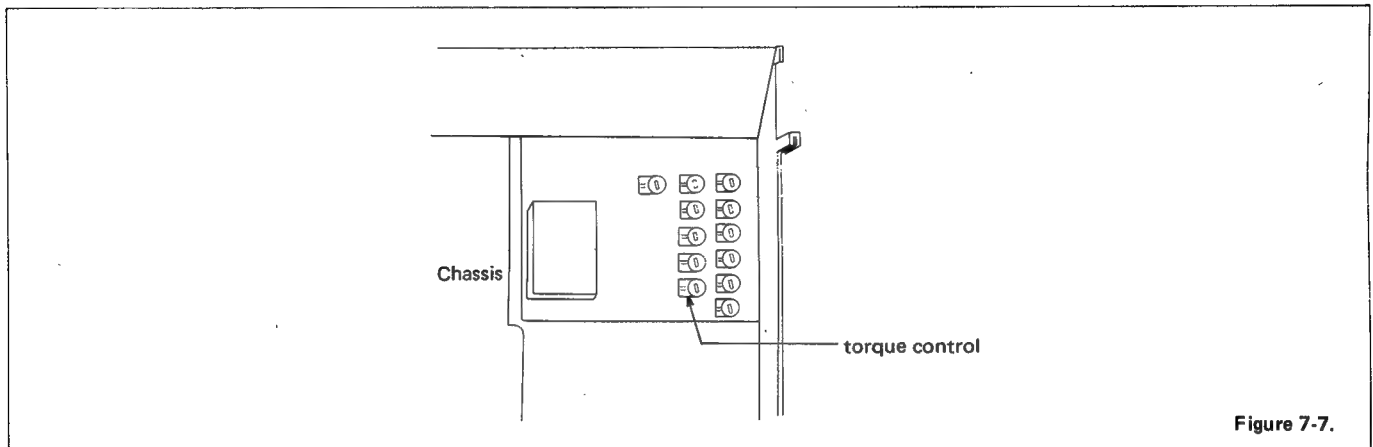

Figure 7-7.
- **Adjustment (See Figure 7-7.)**